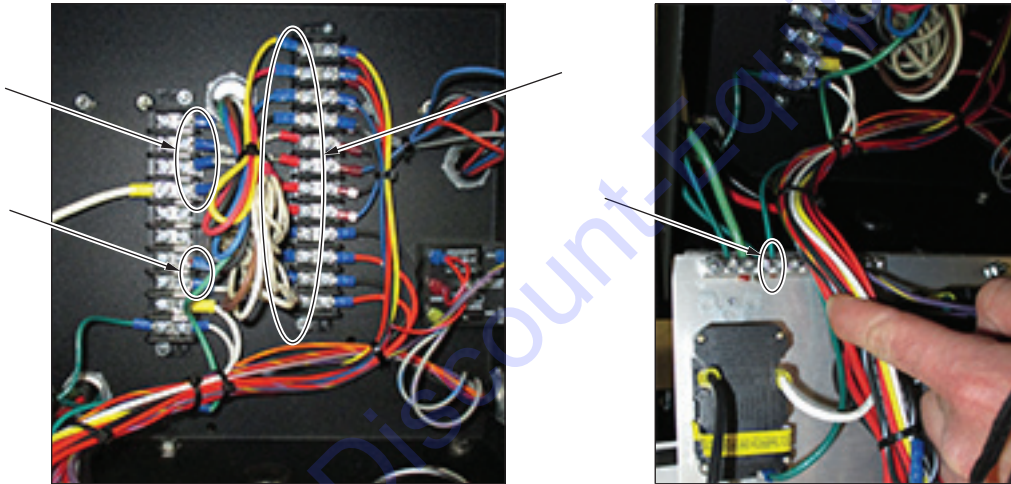

Figure 15 - Wires Passing Through Upper and Middle Strain Reliefs
8. See Figure 15. In control box, disconnect all wires passing through upper and middle strain reliefs.